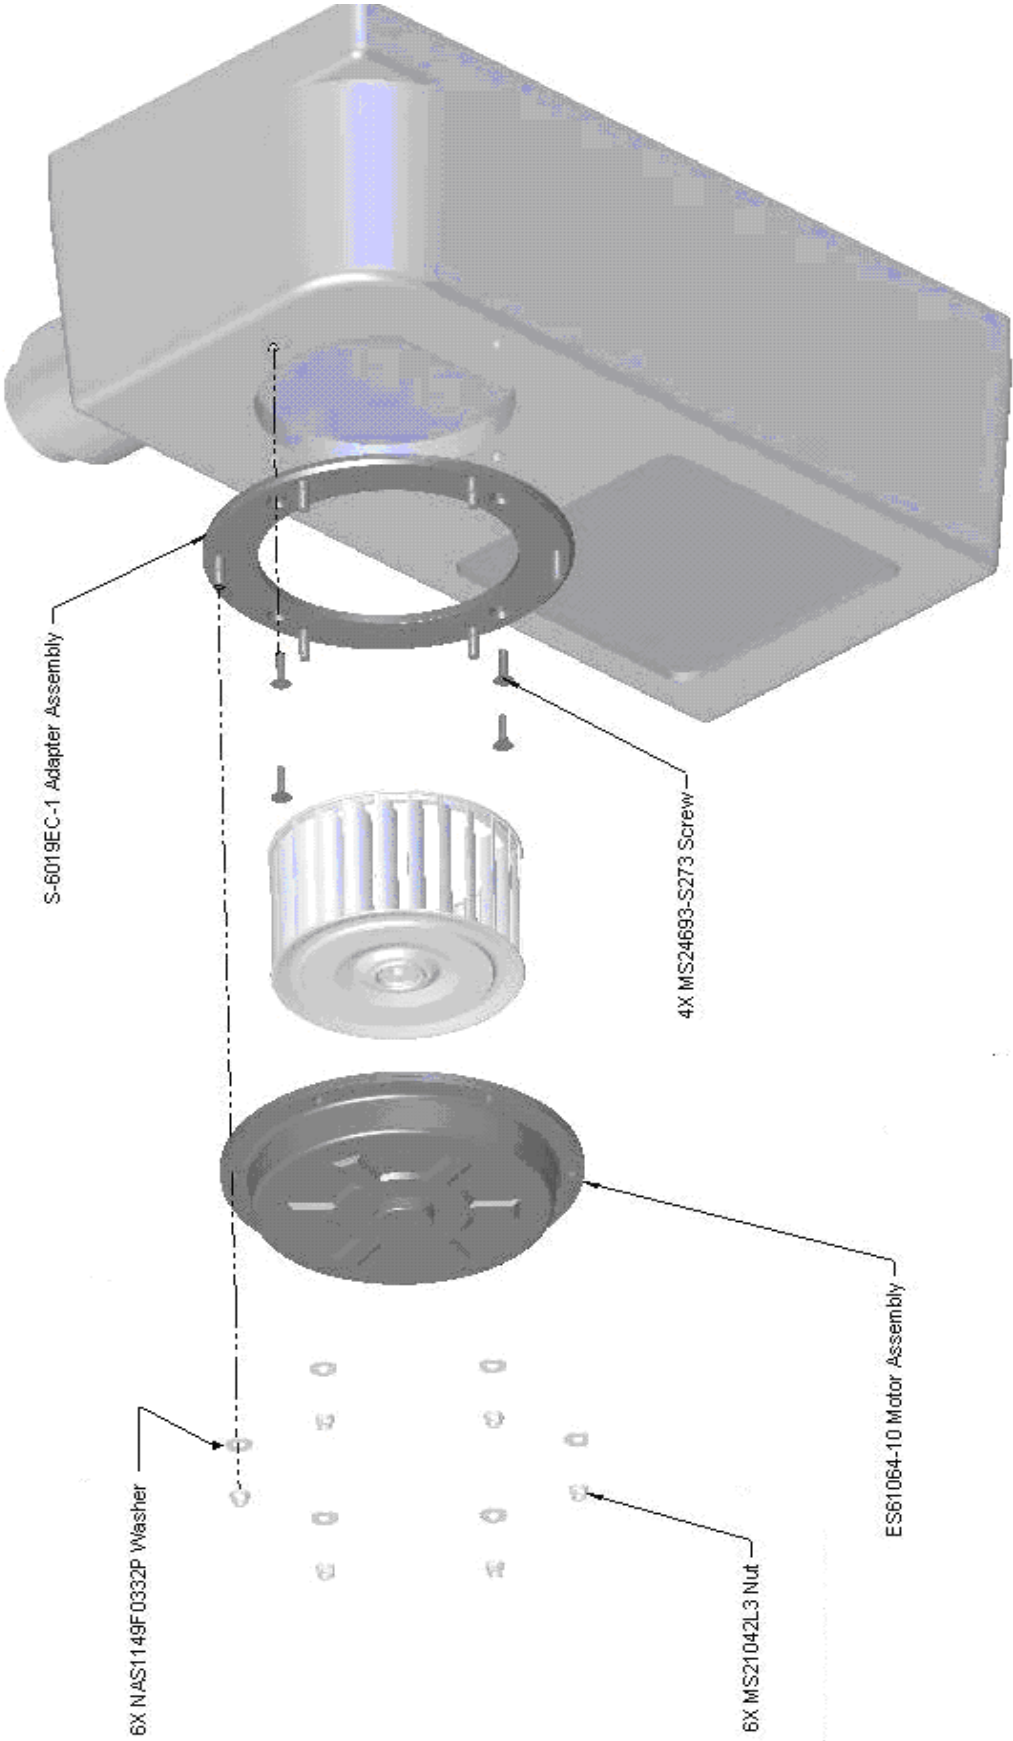

Figure 3.0 Blower Motor / Wheel Evaporator installation
5. Install S-6019EC-1 Adapter Assembly onto evaporator assembly using 4 each MS24693-S273 screws. (Figure 3.0)
6. Install S-61064-1 motor/blower wheel assembly into evaporator enclosure using 6 each NAS1149F0332P washers and 6 each MS21042L3 nuts (Figure 3.0). Care should be taken to orient new electrical leads with existing wires to aid in final attachment to evaporator housing.